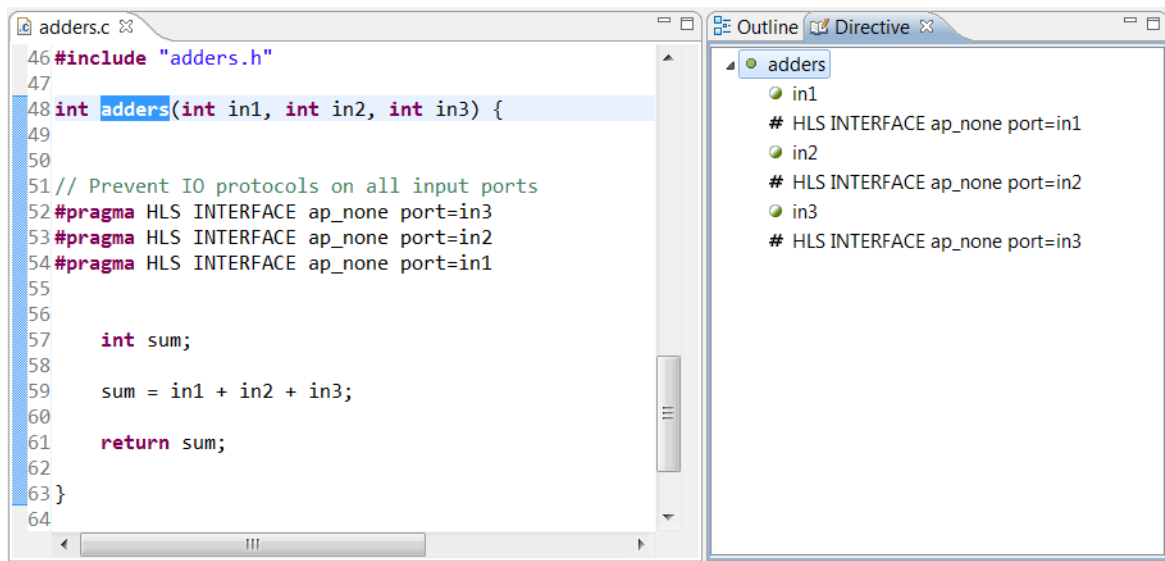

Figure 4-7: Top-Level Function Selected
4. Activate the Directives tab and select the top-level function `adders`, as shown in Figure 4-7.